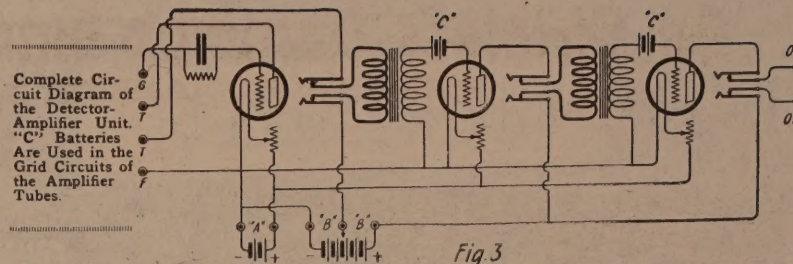

Fig. 3
The hook-up for this unit is shown diagrammatically in Fig. 3. This is a standard detector two-step audio frequency amplifier circuit.
G, T, T and F in Fig. 3, as mentioned before, refer respectively to Grid, Tickler and Filament connections. The binding-posts marked OP are "Output" posts. Connections to a loud speaker may be made here, or another step of amplification added if one might be desired.
To facilitate panel removal, five screws with brass washers should be put in the rear edge of the socket shelf-board and the "A" and "B" connections as shown in Fig. 3 made to them. These "sub-terminals" should be connected to the binding posts on the back of the cabinet with 12" lengths of flexible lampcord.
The battery binding posts are shown schematically in Fig. 3 in vertical rows, as they are shown in the cabinet plan in Fig. 4. With this scheme of battery binding post arrangement it will be found easy to make all battery connections. Beginning at the top we have respectively: (1) Positive terminal of plate battery; (2) Terminal for $22\frac{1}{2}$ detector plate voltage tap; (3) Negative terminal of plate battery; and below and in a line to one side; (4) Positive terminal of storage battery; and (5) Negative terminal of storage battery. This gives us a simple rule to follow when hooking on batteries; namely, high voltage at top—low